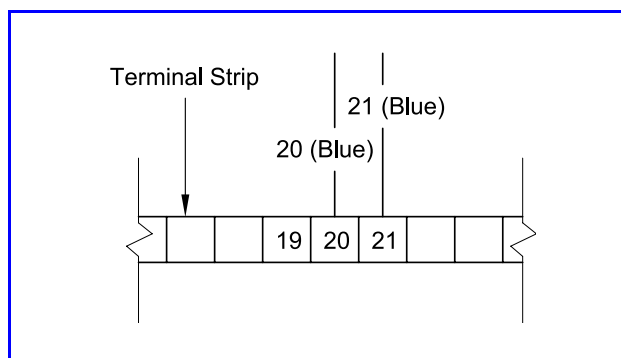

Figure 25 *Wiring Connection for Current Density Mode of Operation*
2. Locate terminals No. 20 and No. 21 on the terminal strip. See **Figure 25**.